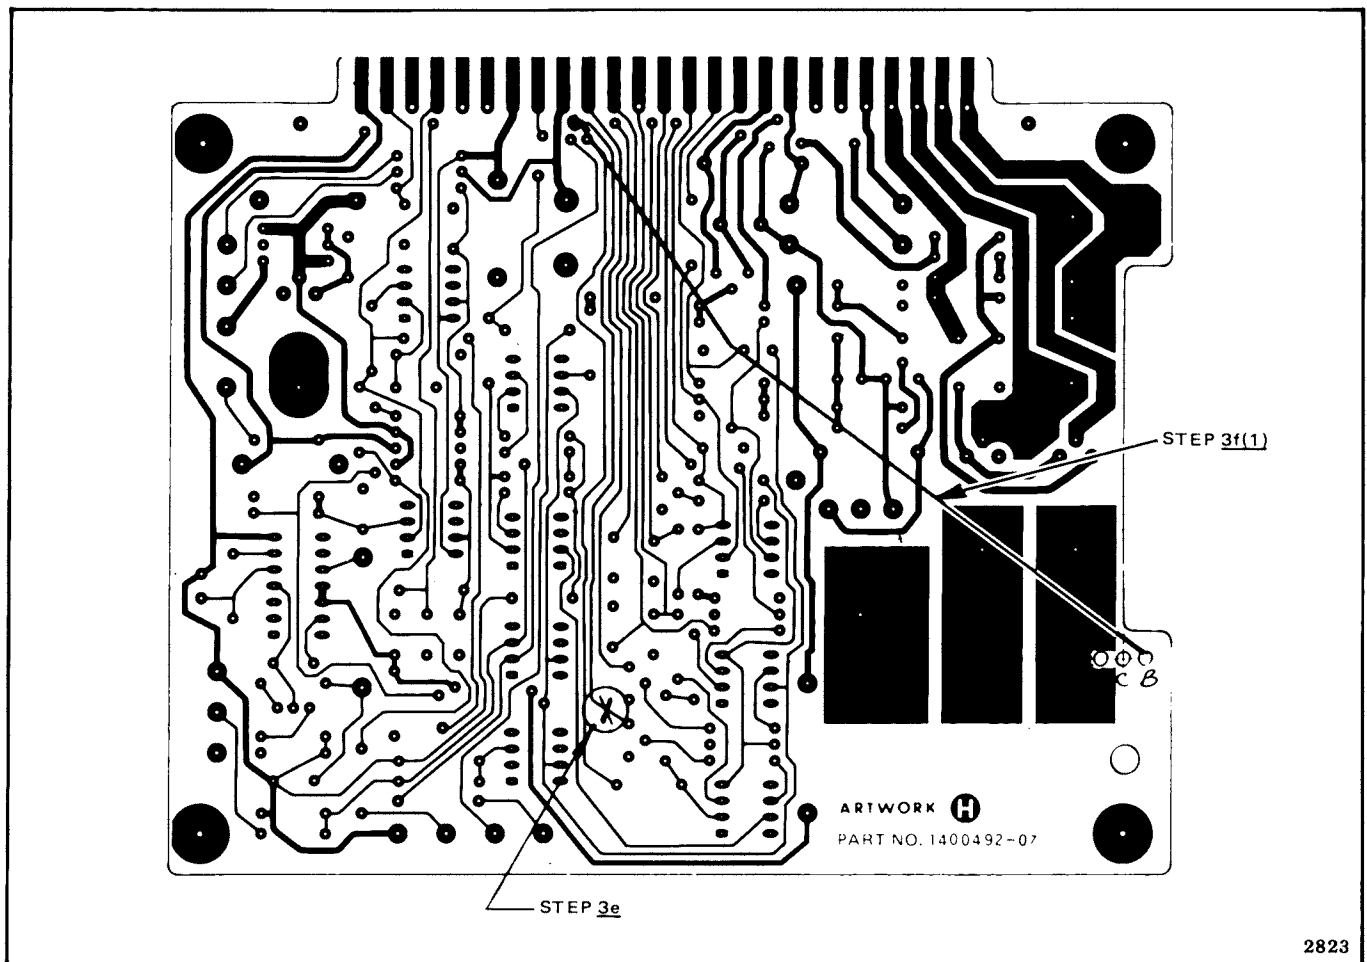

Figure 6. Power Regulator Modifications
- e. Cut a trace from Q1-E to feed through at finger connector number 9, on circuit side, as in Figure 6.
- (1) Hole B to feed through at finger connector number 9 (Figure 6).
- (2) Hole C to A2-8.
- (3) Hole D to Q1-E.